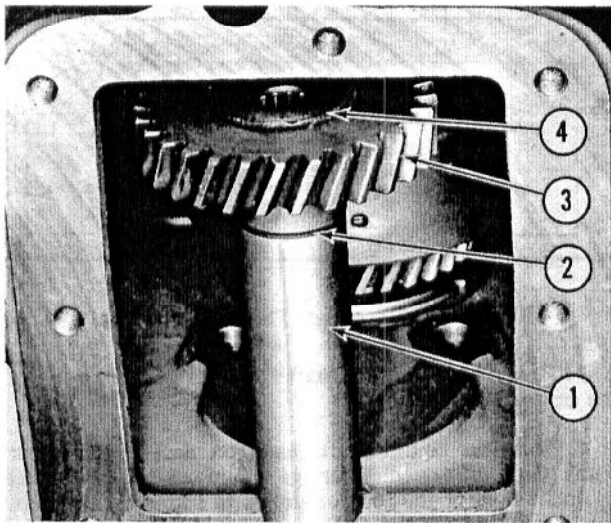

Fig. 33 — Removing the Idler Shaft
6. Carefully grasp the idler spacer and slide it out of the transmission housing, as shown in Fig. 33.